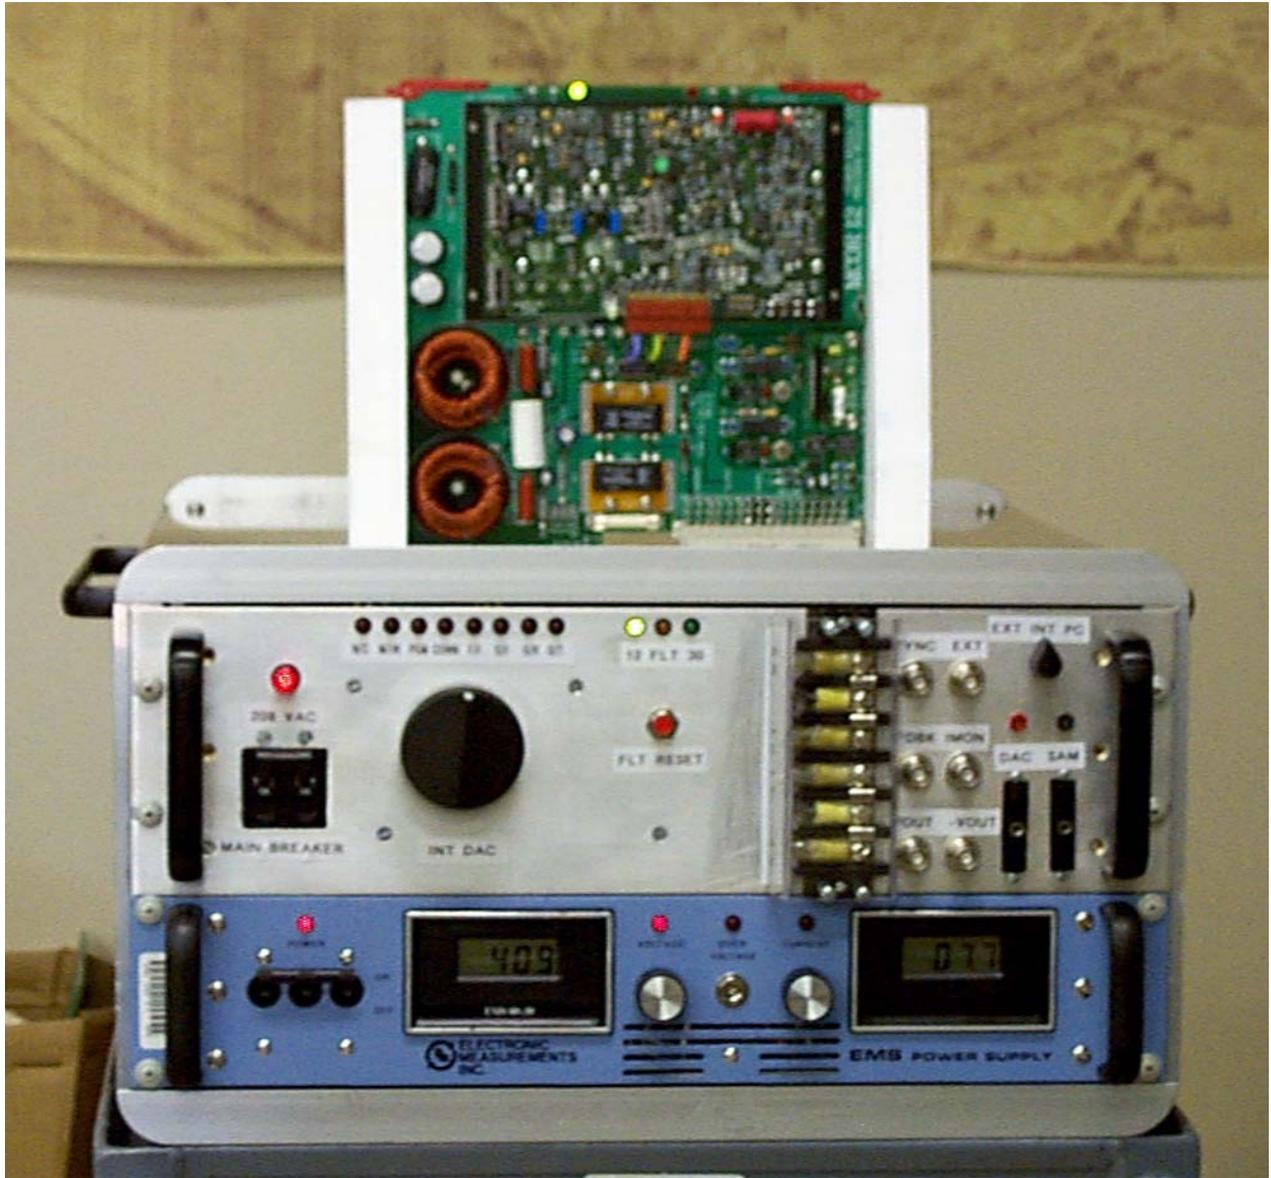

Figure 3.2. The MCOR30 Single-Board Test Bench.
3.3 Diagnosing the MCOR30 Power Module. To repair the MCOR30 module in the shop, use the single MCOR module test stand, shown in **Figure 3.2**. This stand accommodates MCOR12 or MCOR30 modules, and provides the DC bulk supply, utility voltages, a variable command input voltage (MANUAL REF) and a large air-cooled test load. See **Section 2.2** for a detailed theory of operation for the module. A suggested troubleshooting task flow is shown here:
This setup procedure is for initial power up and testing of new or recently repaired MCOR 30 power modules. Use the MCOR single-board bench shown in **Figure 3.2** for this procedure.